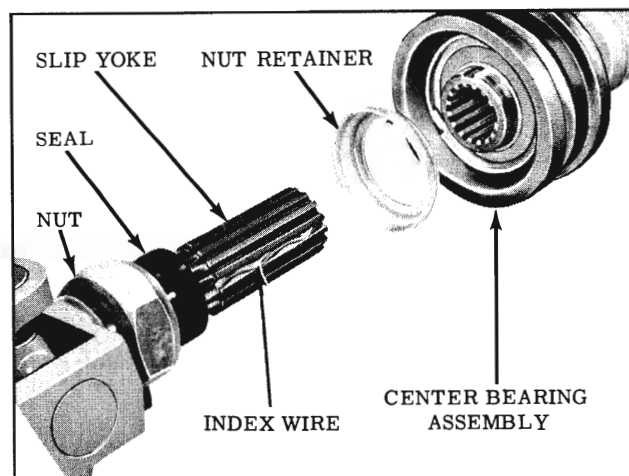

Fig. 6-142 Disassembly of Slip Yoke
NOTE: Watch for index wire in one spline of slip yoke. It is important that this wire be kept in same spline. (Fig. 6-142) Remove nut retainer and rear spacer.
4. Place rear spacer, then nut retainer on the front propeller shaft with the tang of the retainer indexing the slot of the propeller shaft. The cupped side of the nut retainer must face rearward. (Fig. 6-142)